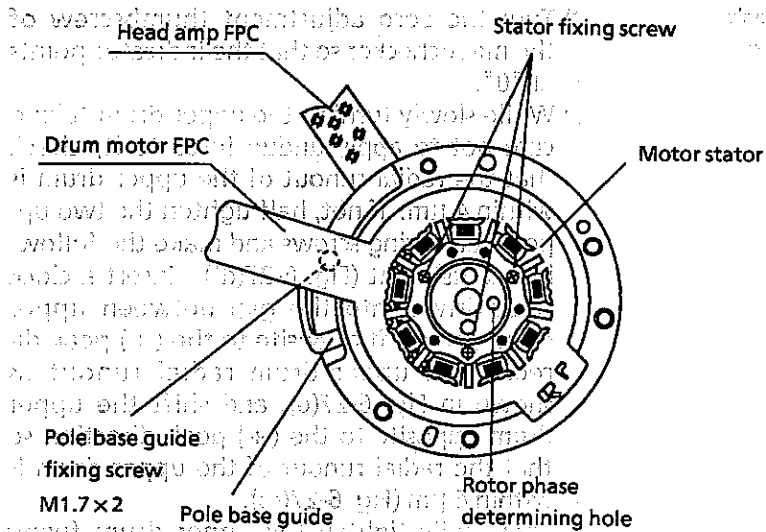

Figure 6-28.
2. Place the upper and lower drum and drum motor ass'y with the upper drum at the bottom and remove the drum motor according to steps 5 and 6 of 6-26. REPLACEMENT OF DRUM MOTOR. Then, remove the pole base guide fixing screw and remove the pole base guide (Fig. 6-28).